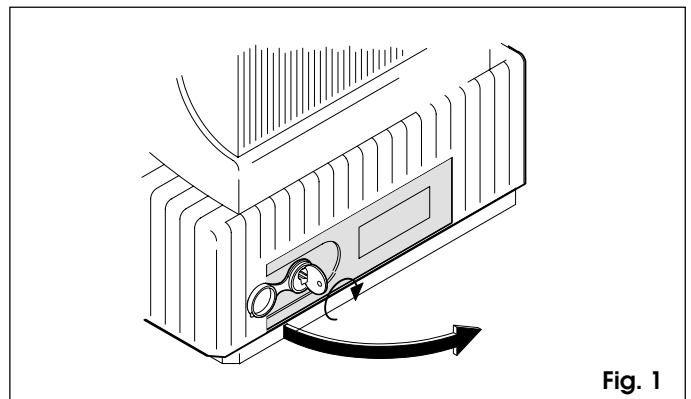

Fig. 1
Should the need arise to operate the gate manually because of a power failure or malfunction, release it by means of the releasing device (fig. 1 - ref. 6).
- open the lid of the lock and insert the relative key in the lock (fig. 1);
- turn the key clockwise and open the cover of the releasing device as shown in figure 1.